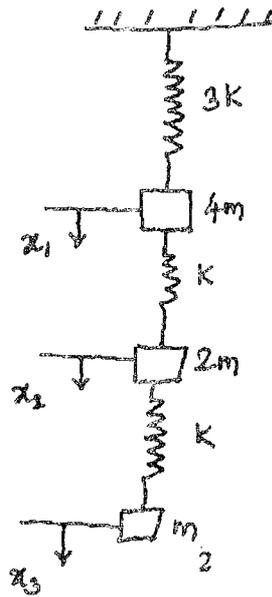

Fig. 13. (a)
13. (a) Estimate the natural frequencies of the following spring-mass system as shown in Fig. 13. (a).